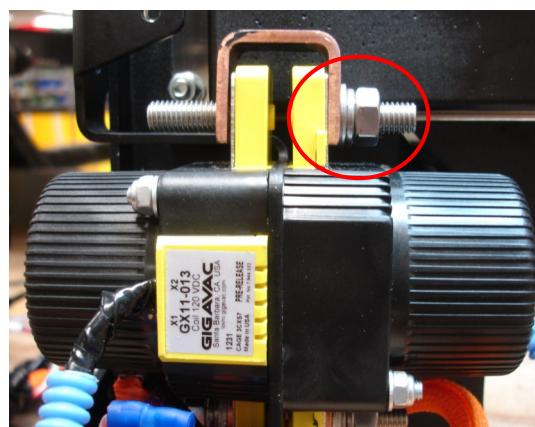

Figure 48
33. Install right side only CONTACTOR JUMPER (ITEM 29) with supplied hardware. See FIGURE 48 and 48b.